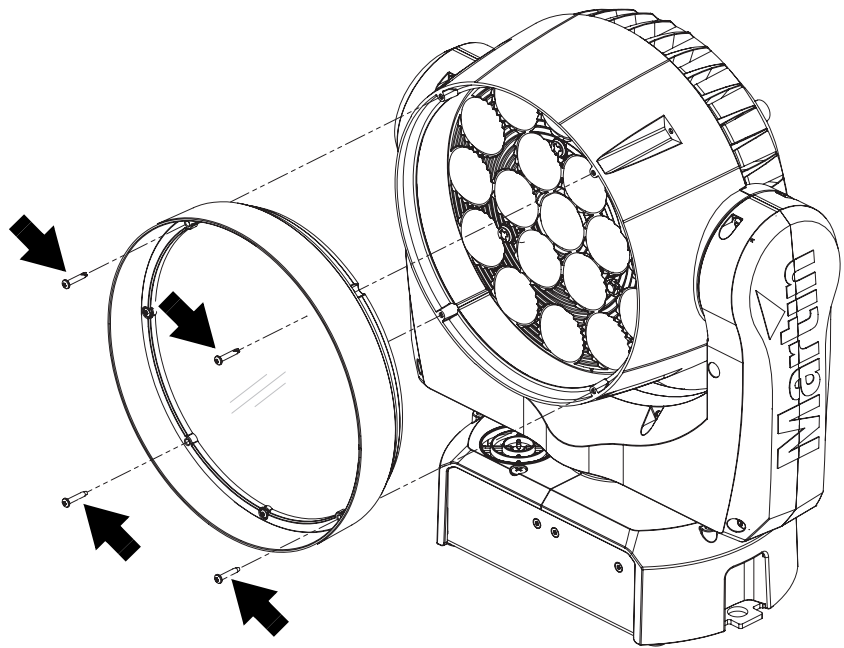

Figure 1: Overview
3. See Figure 1. Line up the four unused screw holes in the Soft Lens assembly with the screw holes in the front of the fixture's head. Pass the four Torx screws (arrowed) supplied with the Soft Lens assembly through the holes in the assembly and into the holes in the front of the head. Use a Torx 10 driver to tighten the screws until the Soft Lens assembly is held securely. Do not overtighten the screws.